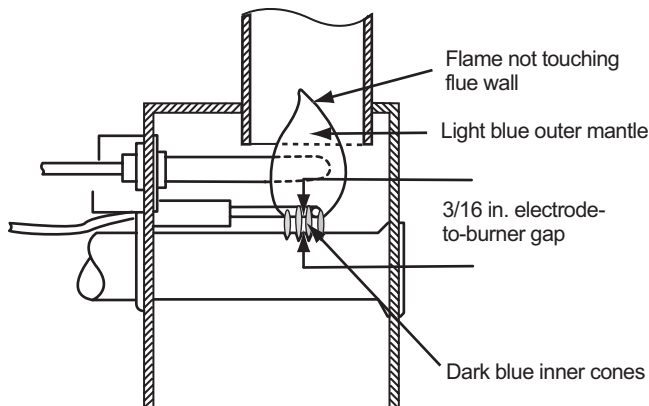

Figure 24. LP gas flame appearance.
A five slot burner is the combustion chamber for the LP gas. Poor or no cooling while operating on LP gas can usually be traced to a dirty, clogged, or damaged burner. In most instances, a weak or erratic flame indicates the burner and orifice need service. The burner flame appearance should always conform to the pattern shown in Figure 24. To check burner performance:
3. Open the burner box inspection port. Refer to Figure 24 for flame appearance guidelines.